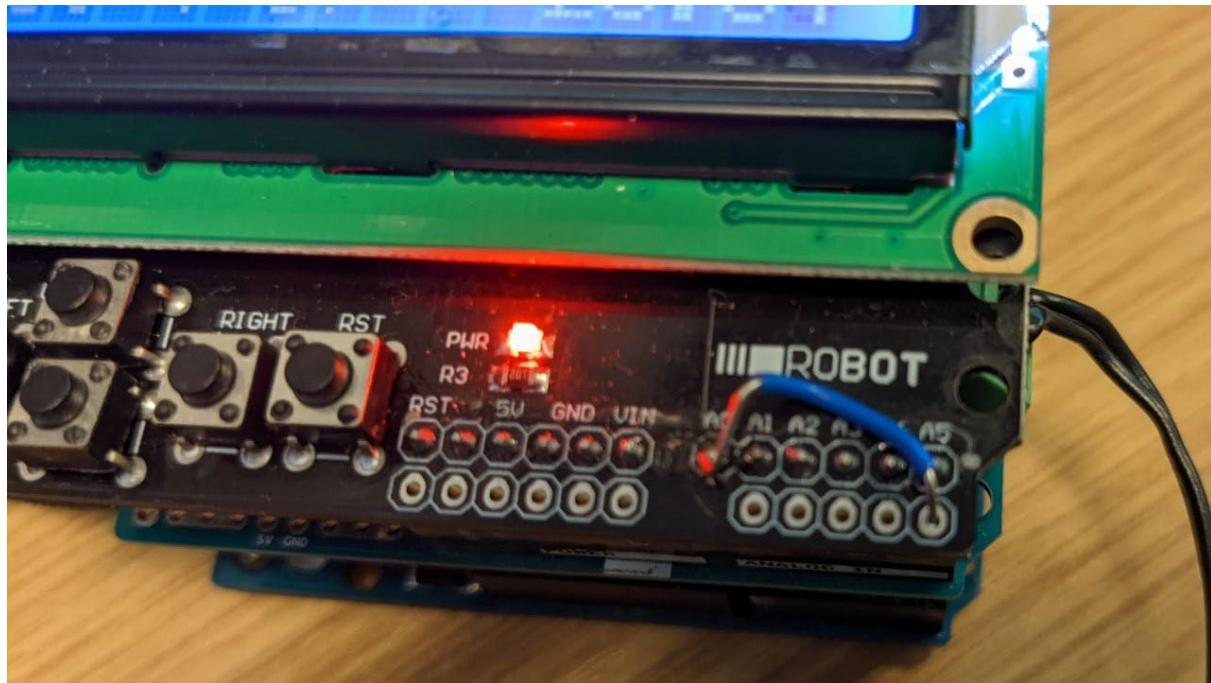

Figure 18 – Alternative way to reroute the pins on the LCD shield. You should do a neater job than we did on this one.
Step 5: The next screen is used to set the high pressure used for calibration (Figure 18). Use the UP/DOWN (10 mmHg increments) or left/right buttons (1 mmHg increments) to set the low calibration pressure to 160 mmHg. Save this value by pressing “ENTER”.